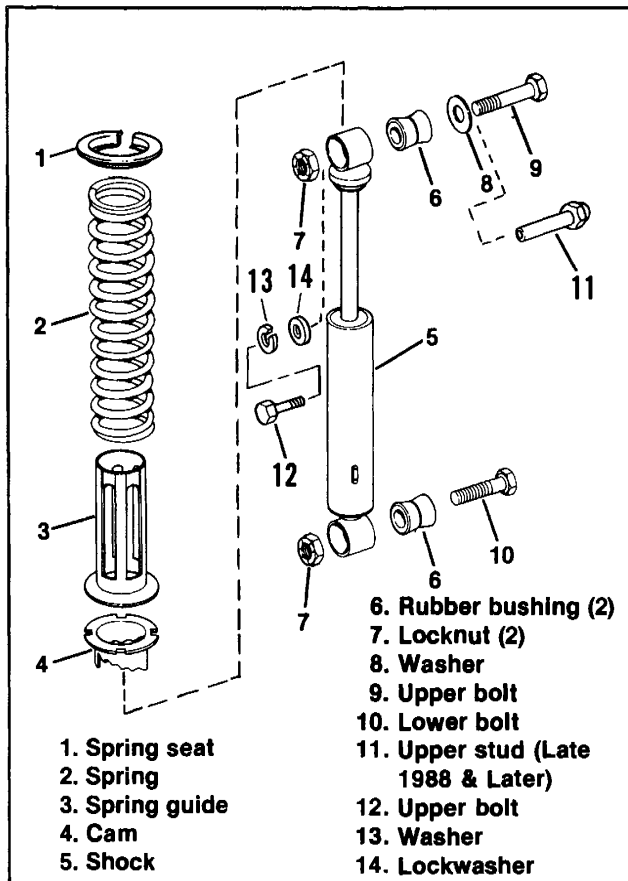
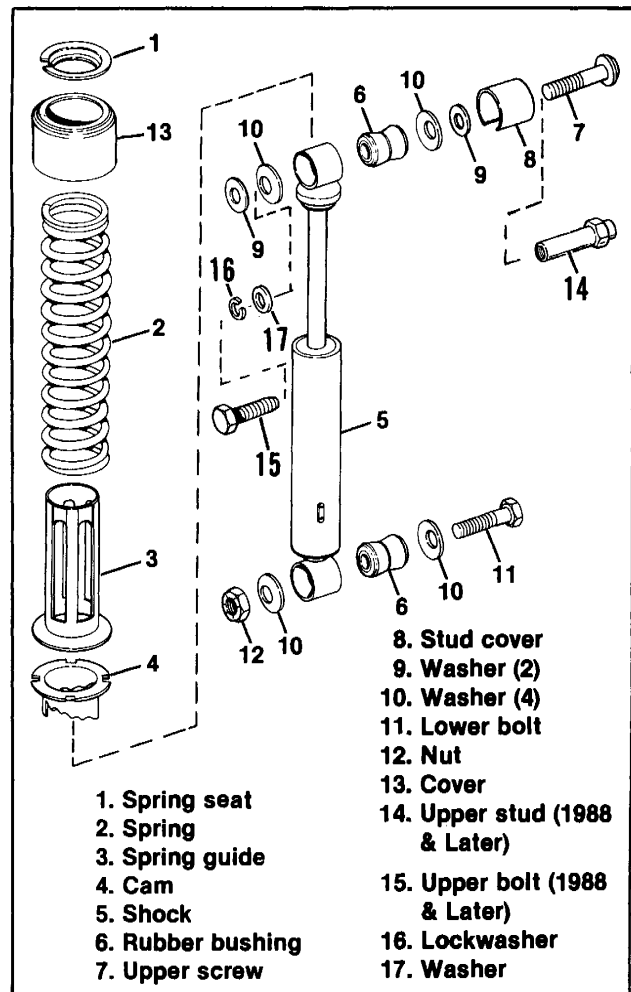

Figure 2-85. Rear Shock Absorber — FLT Models
Figure 2-86. Rear Shock Absorber — FXR Models
2. Compress the shock and remove the spring seat (1, Figure 2-85).
3. See Figure 2-85. Remove the shock from the compressor tool and disassemble the spring (2), spring guide (3) and spring cam (4) from the shock (5).
FLT, FXR Models (Figure 2-85, 2-86)
ASSEMBLY (Figures 2-85, 2-86)
See Figure 2-85. Late 1988 and later models are equipped with internally threaded stud (11) that mates with bolt (12).
See Figure 2-86. All 1988 and later FXR models use the two piece stud (14) and bolt (15) upper fastener.
All Models (Figure 2-85, 2-86)
4. On late 1988 and later FLT's and 1988 and later FXR's, apply 2 to 3 drops of Loctite 242 (blue) to bolt (12, Figure 2-85 or 15, Figure 2-86) and install bolts into internally threaded stud.